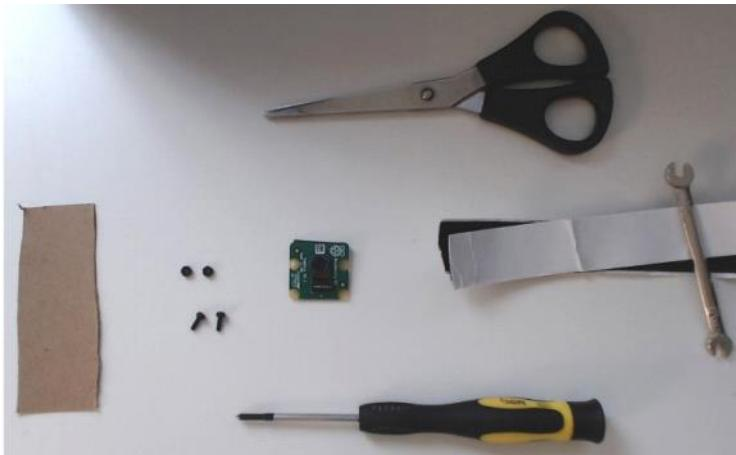

Figure 13.2 – The parts needed for our plan to fit the camera module
The parts needed are shown in *Figure 13.2*:
*Figure 13.2* shows the tools and materials laid out: some thin card, 2 mm bolts and screws, the Pi Camera module, some scissors, a small spanner (or pliers), hook-and-loop tape, and a small screwdriver. You will also need a pencil.